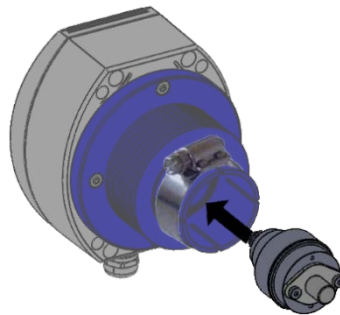

Figure 5-7 - Insert Sensing Module
- c. Fit sensing module to the head housing and gently push to secure the module in place; refer to Figure 5-7.